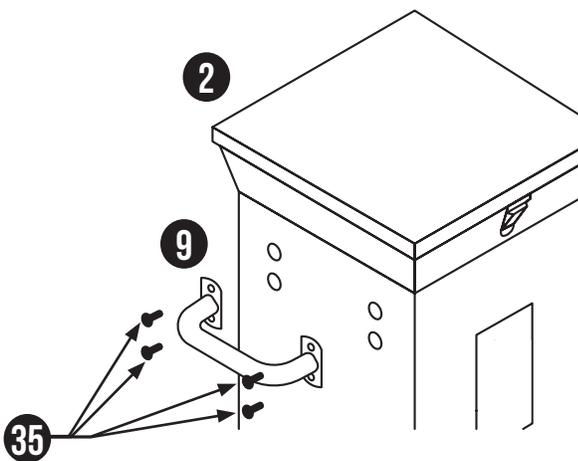

FIG 3
Secure the Body Handle (9) onto the side of the Hopper Assembly (2) with four shorter 1/4-20 Phillips Bolts (35). As shown in FIG 3 & 4.